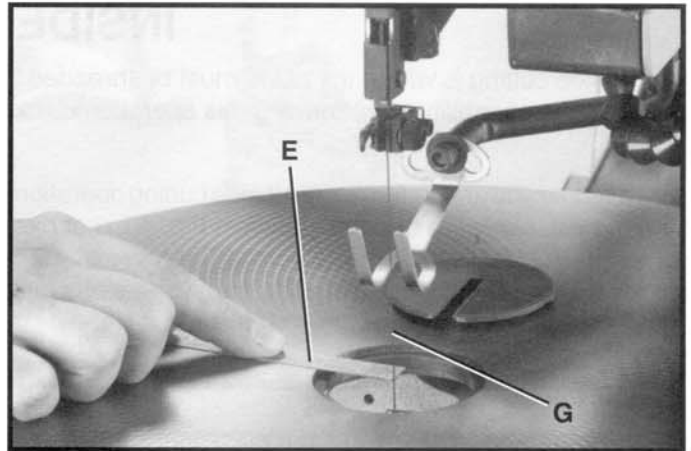

Fig. 36
3. Place a small straight edge (E) Fig. 36, onto the saw table so the end of straight edge (E) is against the side of the saw blade (G) as shown.
4. While holding down on straight edge (E) Fig. 36, slowly rotate motor pulley (not shown) to move blade (G) up and down. Blade (G) should contact end of straight edge (E) during the entire stroke. If consistent contact of the blade is made during the entire stroke, replace top cover which was removed in **STEP 2**. If the blade does not contact the straight edge during the entire stroke, adjust screw (H) Fig. 37, to move the lower blade holder left or right until consistent contact of the blade is made during the entire stroke. Then replace top cover which was removed in **STEP 2**.